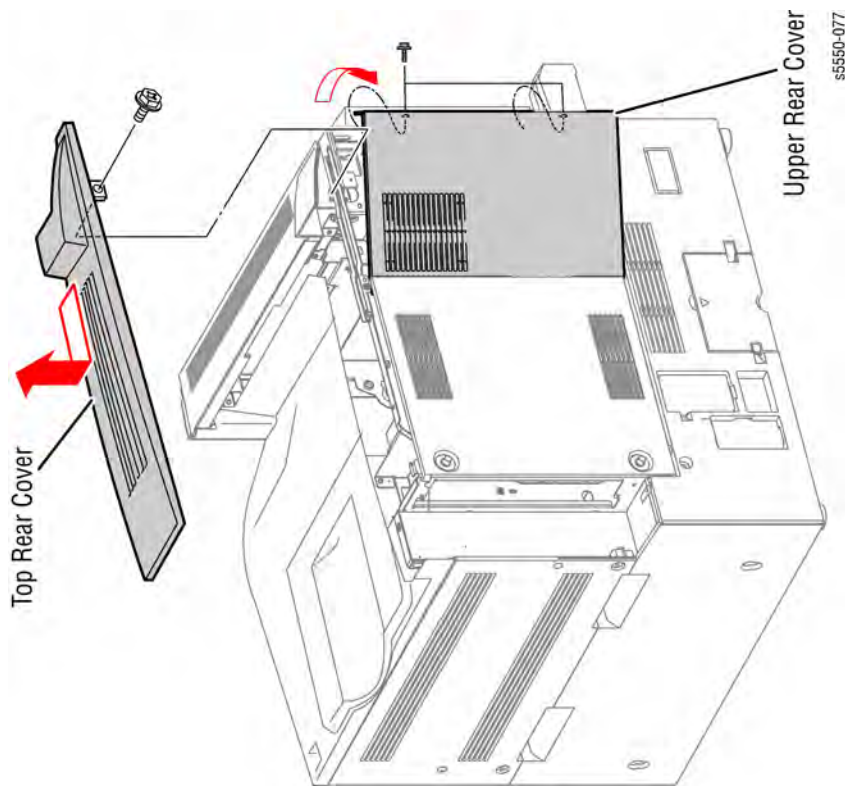

Figure 1 Removing the Top Rear Cover
5. Remove the Top Rear Cover by sliding it left then lifting as shown in Figure 1.